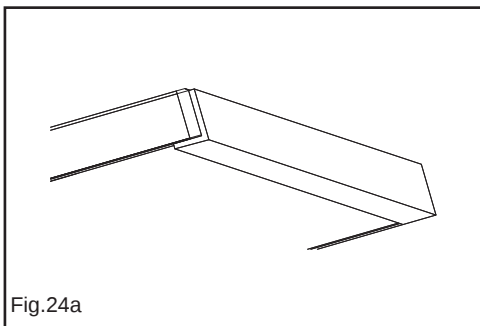

Fig.24a
- Fix the adhesive security seal to the glass cap (Fig.24a).